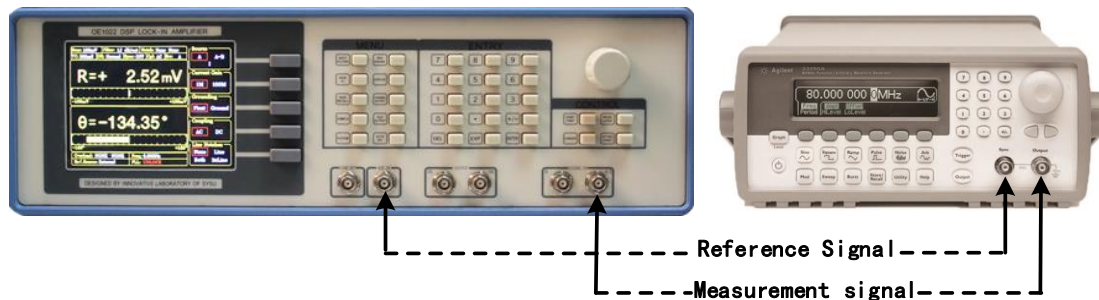

Fig.87 Signal Cable Connection Diagram.
2. Use a BNC cable to connect the output of the function signal generator and the A/I input of the OE1022. Use another BNC cable to connect the reference signal of the function signal generator and the REF IN of the OE1022, as is shown in Fig.87.